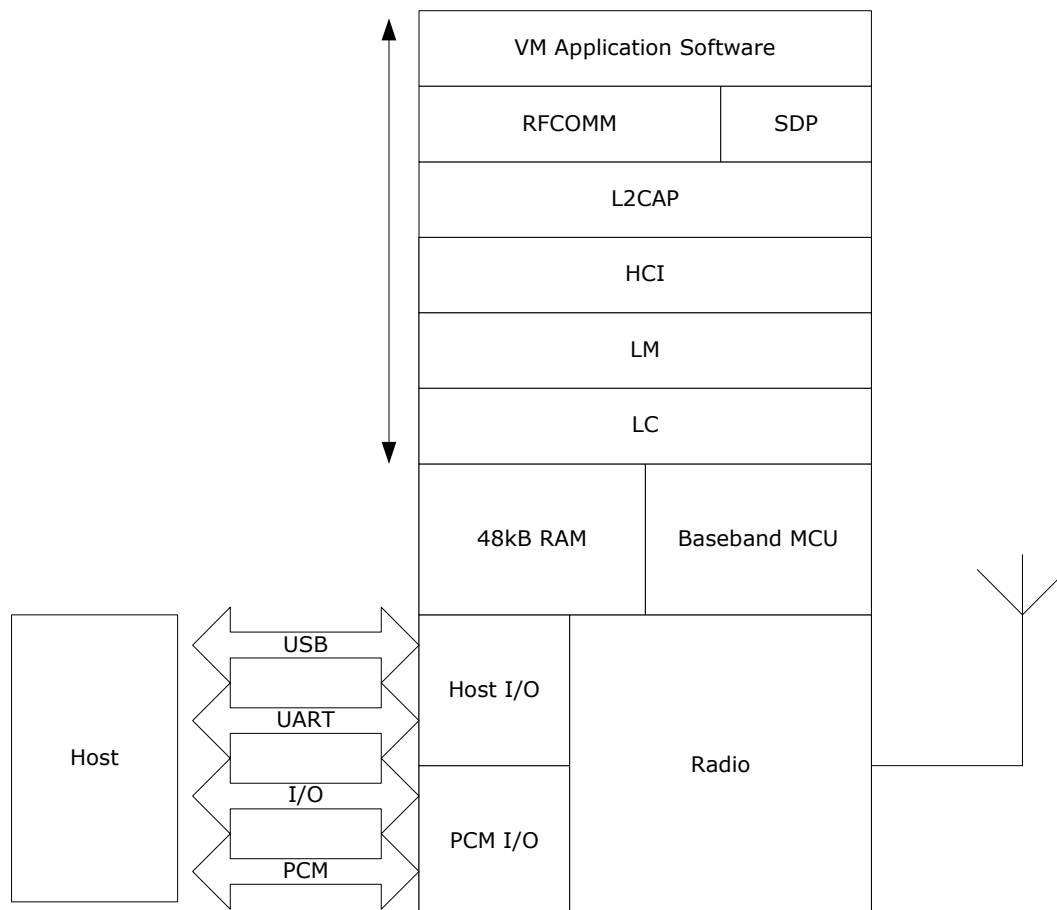

Figure 35: WRAP THOR VM Stack
The host processor interfaces to iWRAP software through one or more of the physical interfaces, which are also shown in the figure 35. The most common interfacing is done through the UART interface using the ASCII commands supported by the iWRAP software. With these ASCII commands, the user can access Bluetooth functionality without paying any attention to the complexity, which lies in the Bluetooth protocol stack.
The version of the stack firmware shown in Figure 35 requires no host processor (but can use a host processor for debugging etc.). All software layers, including application software, run on the internal RISC processor in a protected user software execution environment known as a Virtual Machine (VM).